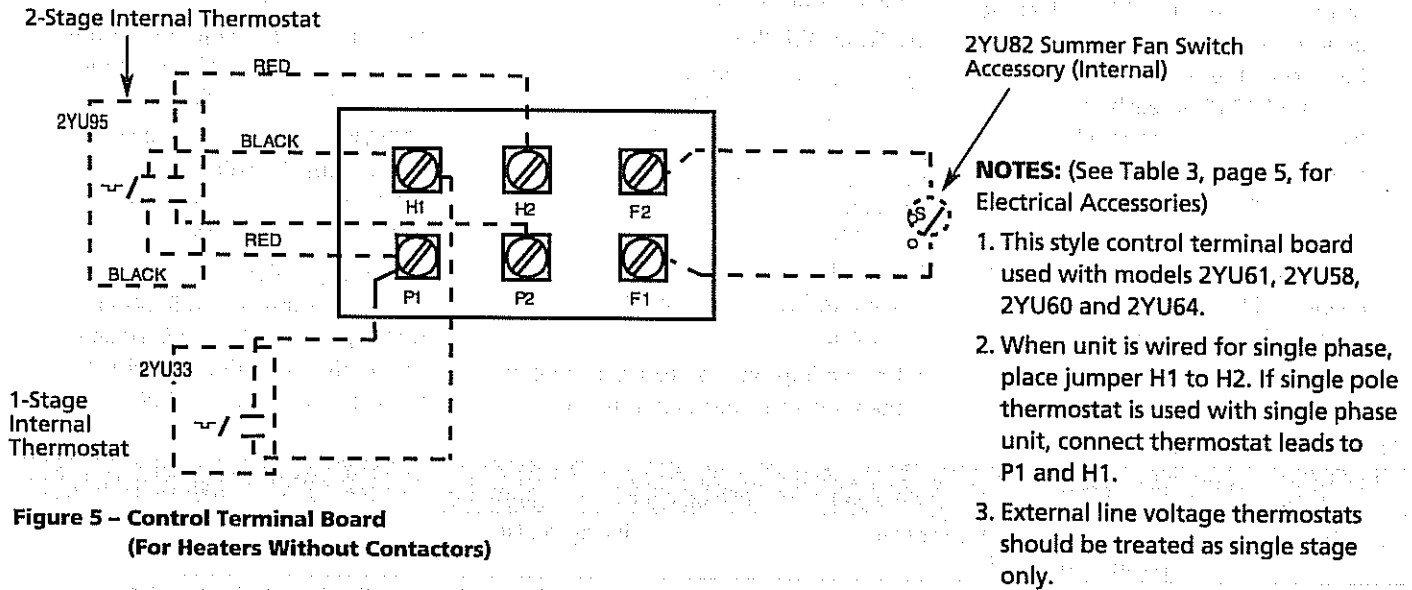

Figure 5 - Control Terminal Board (For Heaters Without Contactors)
3. On units not provided with internal contactor (3 kW), refer to Figure 5, page 6, for wiring diagram.